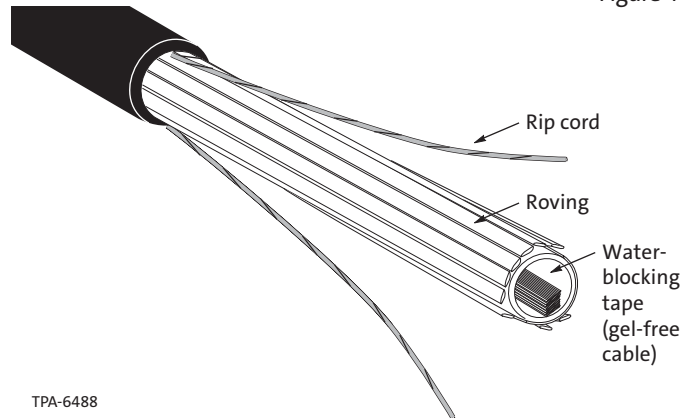

Figure 5
Step 5: Remove the section of sheath to expose the rip cords and fiber glass rovings (Figure 5).